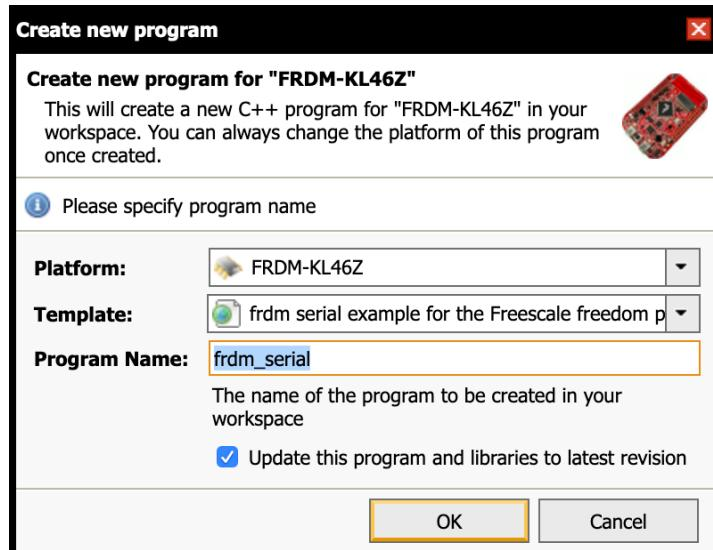

Figure 11: “Create new program” dialog window.
- II. In the “Template” selection box, select “frdm serial example for the Freescale freedom platform”, leave the name as “frdm_serial” and select “OK” as shown in Figure 11.